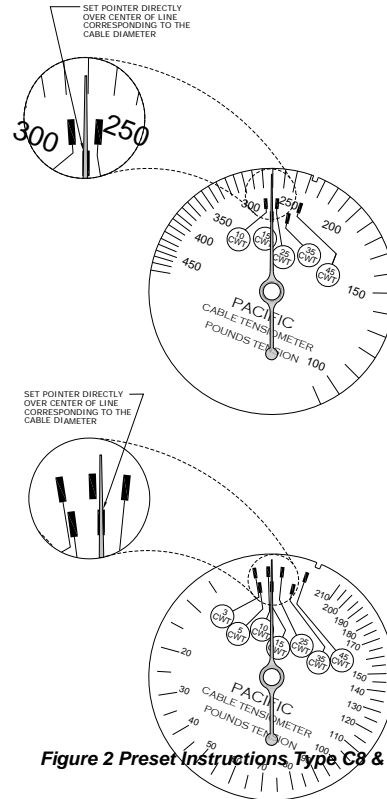

Figure 2 Preset Instructions, Type C8 & C9 British
- a. **TYPE C8** – To Pre-set Dial: Rotate knurled rim of pre-set dial until the pointer is directly over the line corresponding to the cable diameter (See Fig 2). With the dial properly aligned with the correct cable size, repeat step 1. b.
- TYPE C9** – To Pre-set Dial: Rotate knurled rim of pre-set dial until the pointer is directly over the line corresponding to the cable diameter (See Fig 2). With the dial properly aligned with the correct cable size, repeat step 1. b.